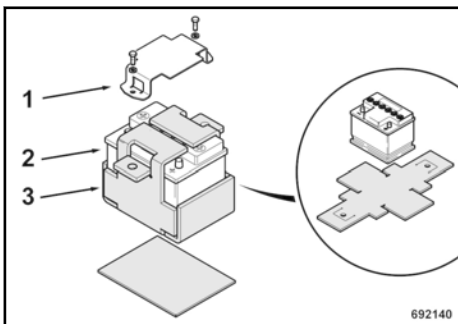

Fig. 51
Unscrew bracket (1) Fig. 51 of the battery.